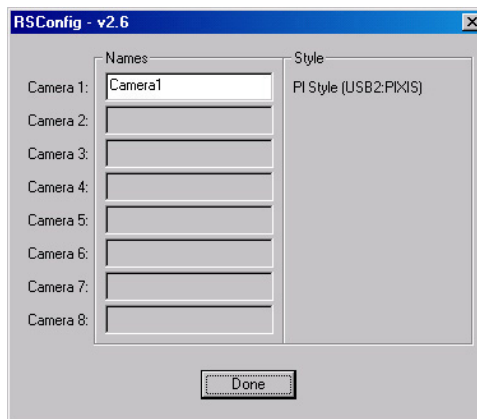

Figure 41. RSConfig dialog box
4. When the RSConfig dialog box (Figure 41) appears, you can change the camera name to one that is more specific or you can keep the default name "Camera1". When you have finished, click on the **Done** button.